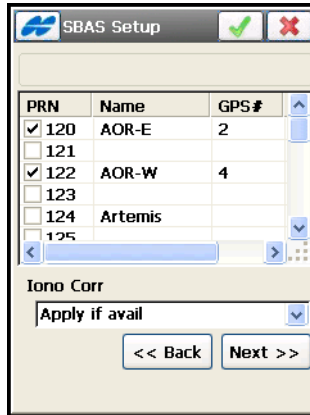

Figure 4-57. SBAS Setup
- For SBAS (Satellite-Based Augmentation Systems), select satellites of a satellite-based augmentation system (WAAS/EGNOS/MSAS) to improve accuracy of DGPS solutions (Figure 4-57 on page 4-47):